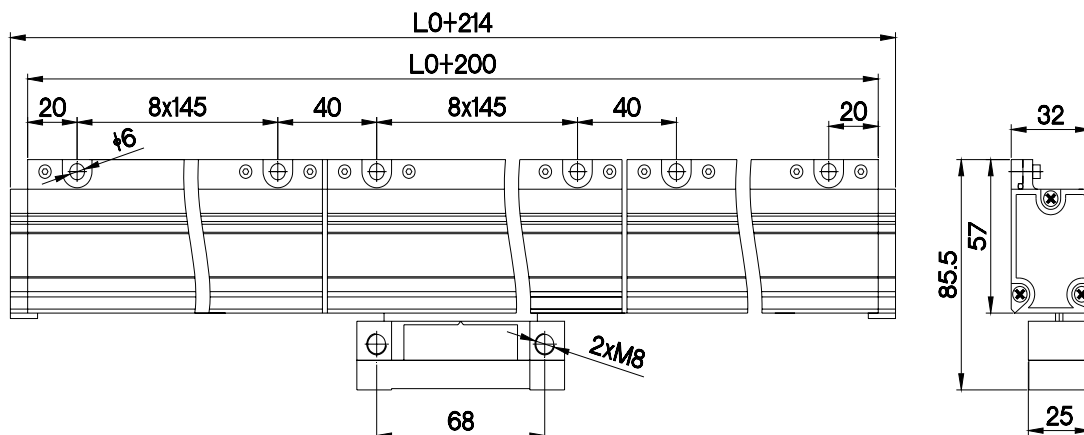

Fig. 4.3 Dimensions of structure
Dimensions of the structure are as shown in Fig. 4.3.
- (1) **Machining reference face:** Select a suitable place for installation and installation reference face. The installation reference face shall be machined to a roughness of Ra6.3. Drill M6 screw holes on the installation reference face with intervals and dimensions as shown in Fig. 4.3.